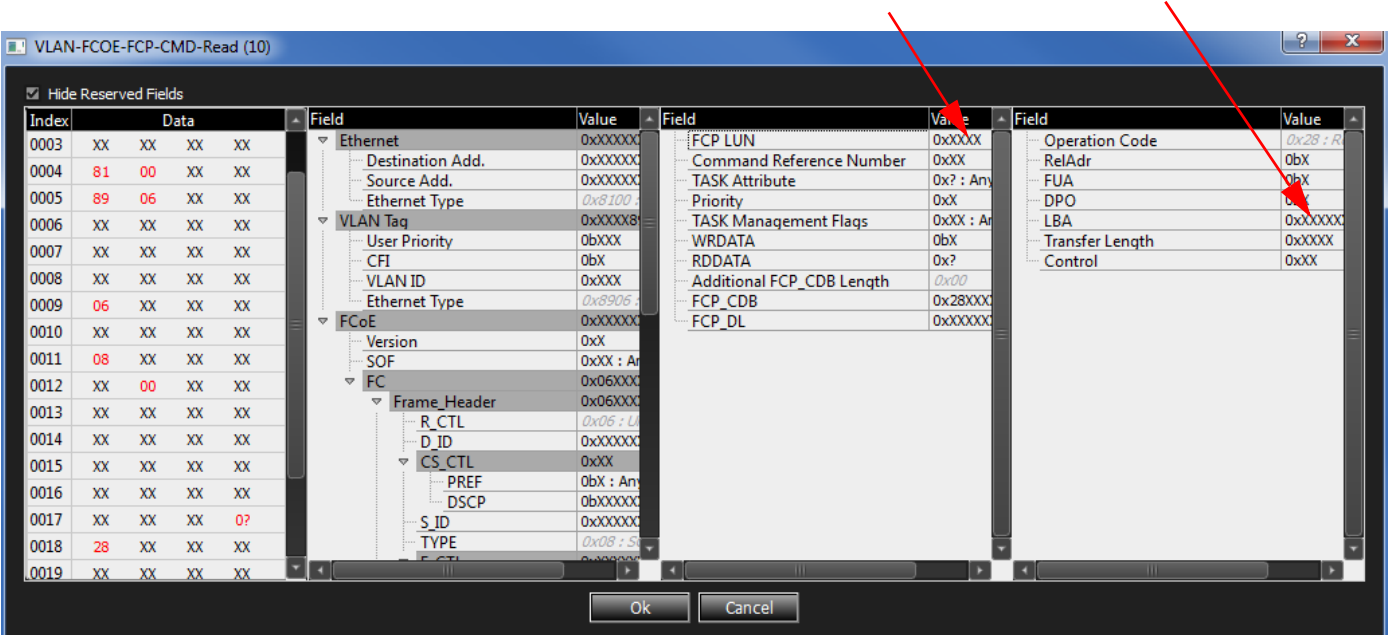

Figure 3.44: Find LUNs and LBAs 2
- 4. Select the command, double-click or right-click, and select **Match Fields**. The following dialog displays (see Figure 3.44).